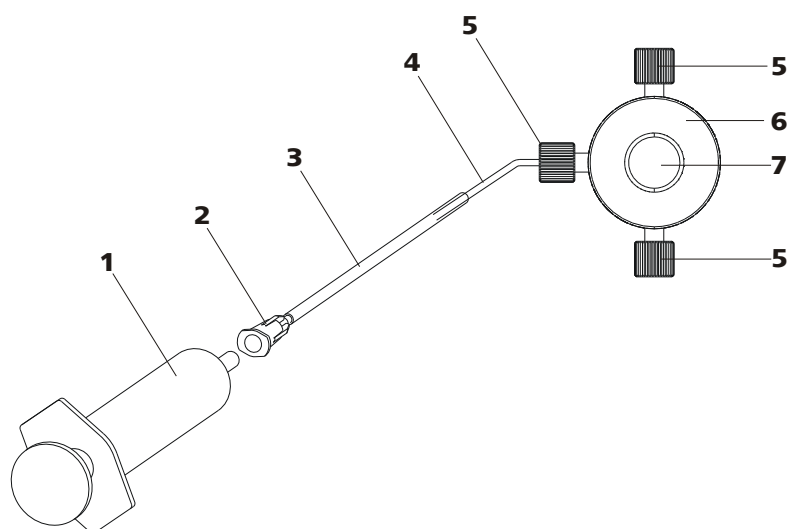

Figure 16 Deaerate the high pressure pump
Deaerate the high pressure pump as follows (see Figure 16, page 34):
- Insert syringe (16-1) in the Luer connector (16-2) of the purging needle (see Figure 16, page 34).